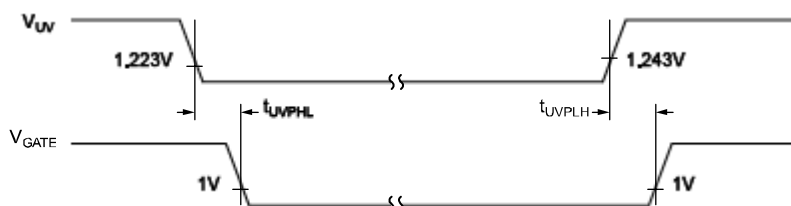

Figure 4. MIC2589/MIC2589R Undervoltage Response
| $t_{UVPHL}$   | UV Low to GATE Low (8) ,(MIC2589 and MIC2589R)Figure 4  | UV = 1.0V                                                 |     | 1   |     | $\mu s$ |
| $t_{UVPLH}$   | UV High to GATE High (8)(MIC2589 and MIC2589R)Figure 4  | UV = 1.5V                                                 |     | 1   |     | $\mu s$ |